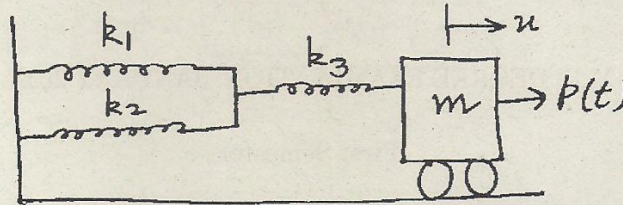

Fig. 1
11. (a) (i) Determine the effective stiffness of the combined spring system shown in Fig. 1 and write the equation of motion for the spring-mass system. (7)